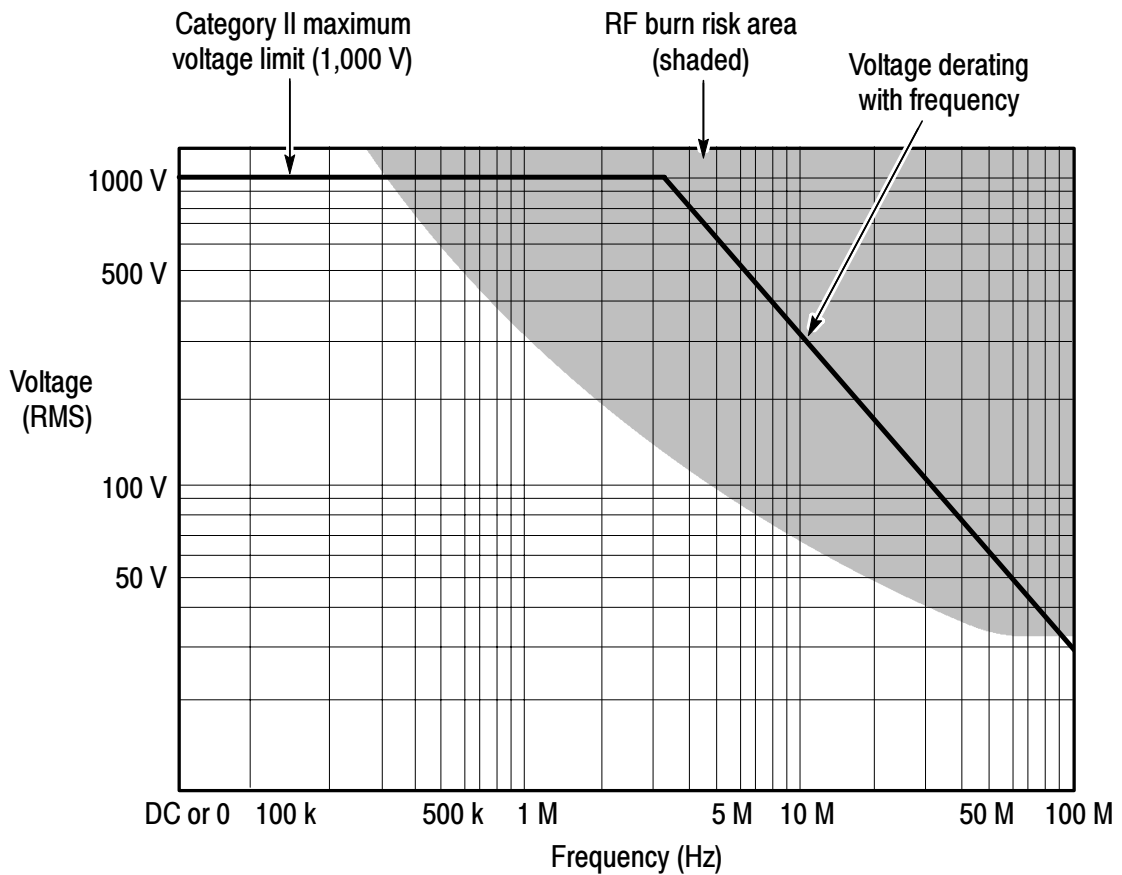

Figure 2: Safety limits (voltage between either input and earth ground)
WARNING. *To avoid personal injury, do not handle the probe leads when the leads are connected to a source that is above the voltage and frequency limits given in Figure 2 on page 9. The area above these limits poses a risk of radio frequency (RF) burns.*
CAUTION. *To avoid damaging the input circuitry of the P5200 probe, do not apply a voltage that is more than 1,000 V_{RMS} CAT II between either input and ground or more than 1,300 V (DC + peak AC) between the two inputs. Above 3 MHz, the voltage limit decreases as frequency increases. See Figure 2 on page 9. The input limit applies to both the 50X and 500X settings.*